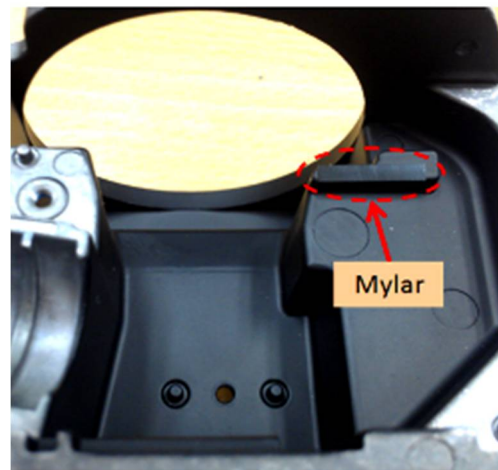

Fig. 3-2-1
- B. Paste “Mylar ” on DMD HSG. (Fig. 3-2-1)